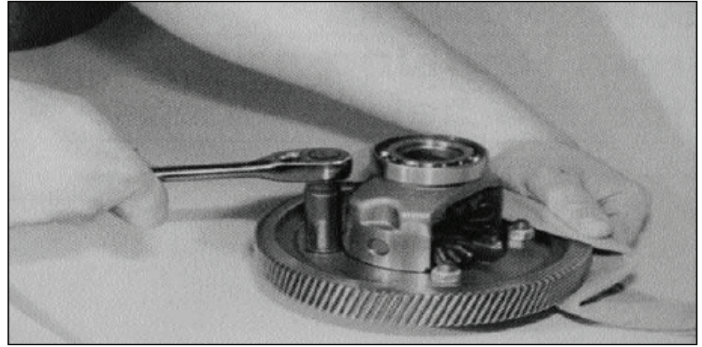

Figure 7-17. Removing Output Gear from Differential
11. Remove four bolts (6) and nuts (7) from the final drive gear (5). Remove gear from differential case. Use care not to damage gear teeth. See Figure 7-17.